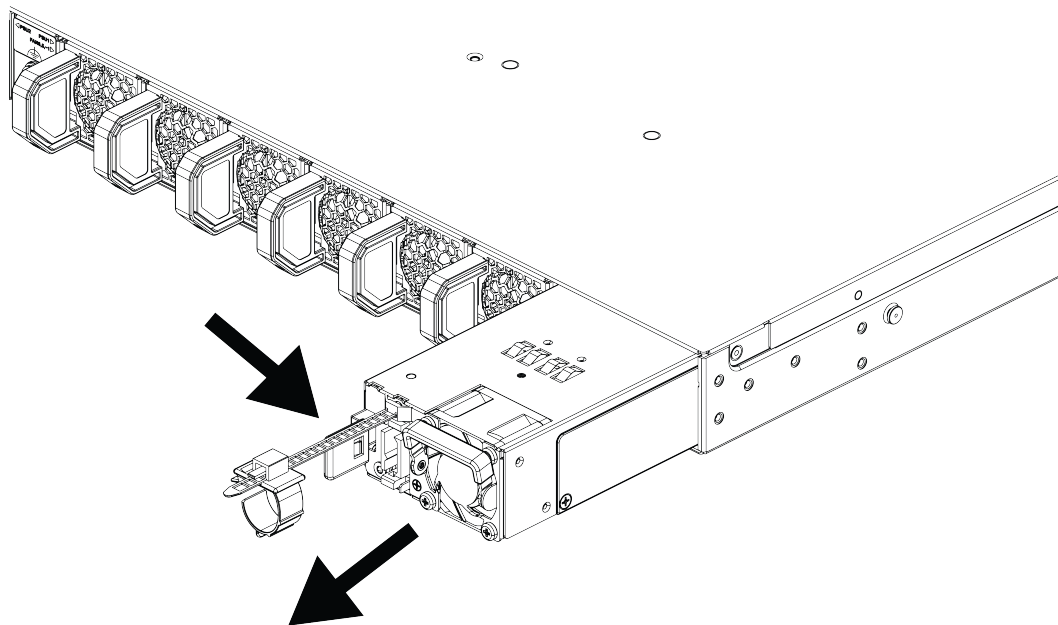

Figure 30: Remove an 800 W DC Power Supply
3. Push the latching tab toward the power supply handle and pull outward on the handle to disengage the power supply internal connectors, as shown in Figure 30.
4. Carefully slide the power supply the rest of the way out of the switch, as shown in Figure 30.